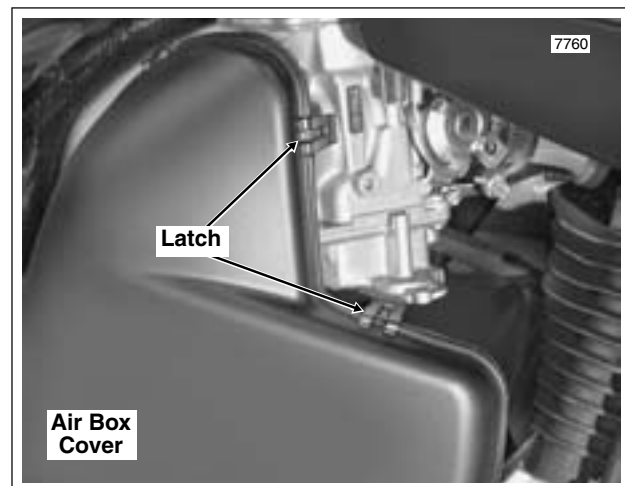

Figure 1-35. Release Air Box Cover Latches
- Release five latches around perimeter of air box cover. See Figure 1-35.